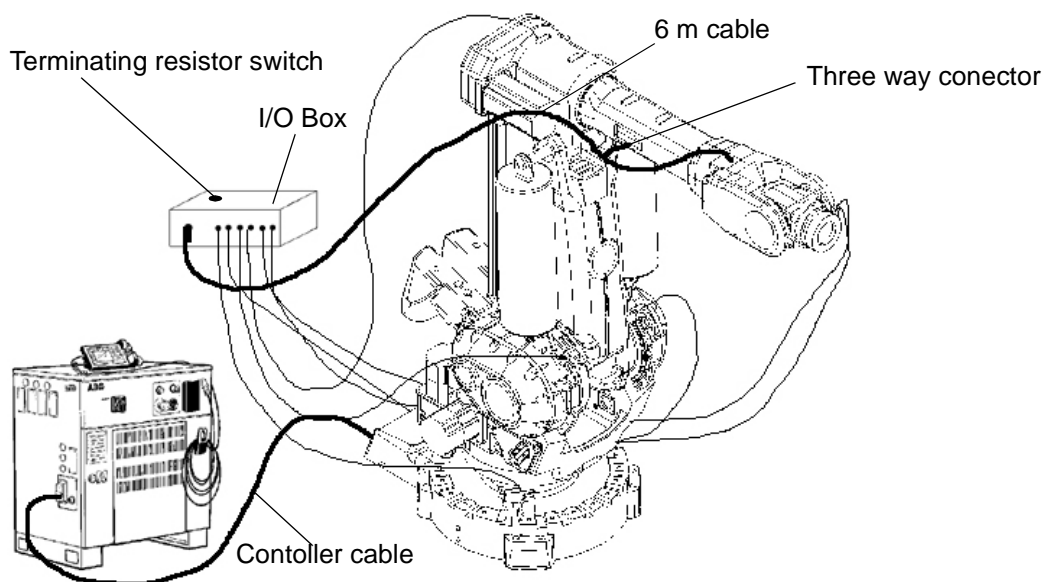

Figure 25 Connection with CANBUS
With CANBUS (See Figure 25 Connection with CANBUS)
10. Connect the cables from the box to the sensors on axes 1-6 see Figure 25 Connection with CANBUS.
5. Connect the cables from the box to the sensors on axes 1-6 see Figure 25 Connection with CANBUS.